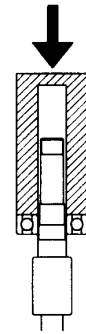

Fig. 9
- (1) Press bearing ⑫ onto shaft ⑰ until seated against the shoulder. (Fig.9)
- (2) Install bearing washer ⑭ and bearing nut ⑬.
- (3) Press bearing ⑫ into bearing box (outlet side) ⑲.
- (4) (MLC-581,701, GLC-585,705) Install cooling fan ⑳.
- (5) Install bearing retaining cap ㉔.
- (6) Install bearing box (outlet side) ⑲ onto fan case (A) ④.
- (7) Install fan key ⑱.
- (8) Assemble fan ⑱, deflector ⑳ and fan case (B) ⑤ through the last fan in this order, and then, insert collar ⑮.